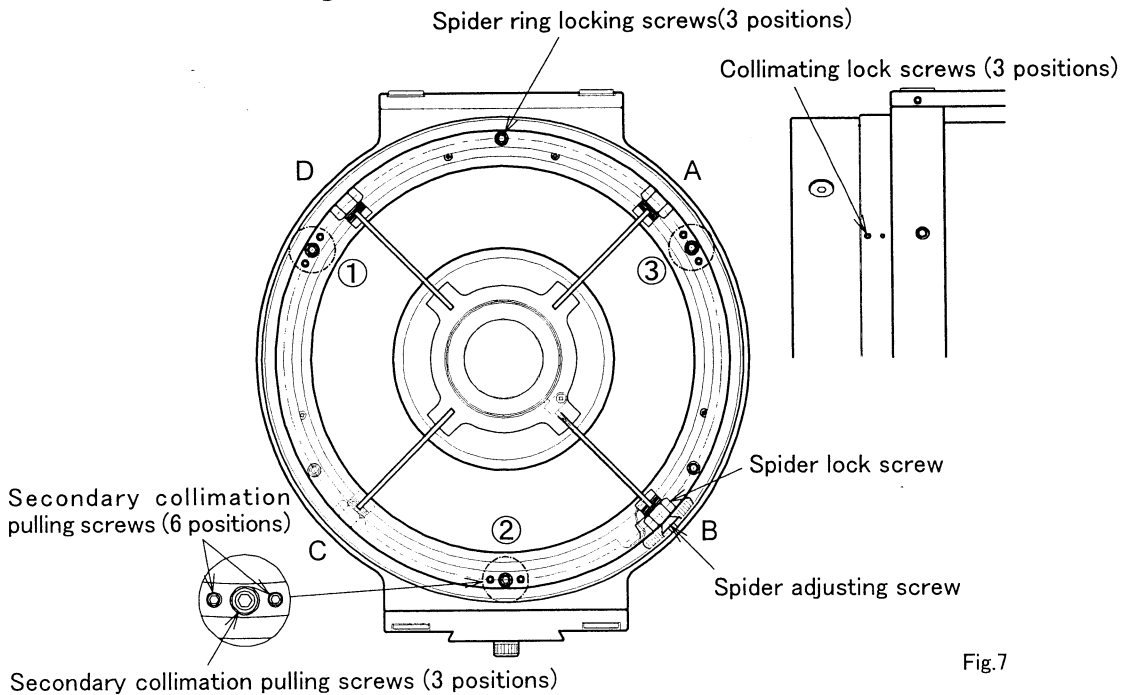
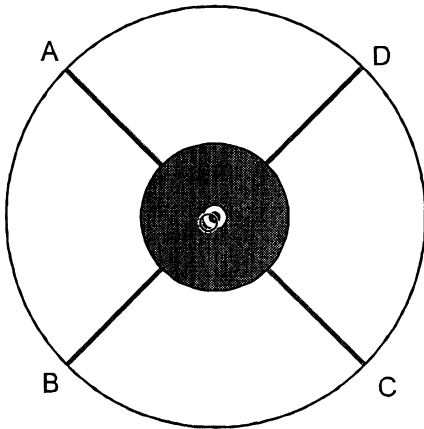

Fig.7
Fig.8
4.Loosen, with the 2mm Allen wrench provided, the collimating lock screws located at 3 places on the side of the top ring. Loosen 3 spider lock screws (M5 with hexagonal hole) located on the opposite side of the collimation lock screws, until it will not be tighten when collimation is performed. Refer to the fig.7.
5. Check the movement of the secondary mark. The Fig. 8 shows what is seen when looking into the collimating scope and the Fig. 7 shows what is seen from the top of the tube. In the Fig. 8, the secondary mark is seen shifted toward the B wing of the spider. Adjusting the shifting in the Fig. 8 is as follows.
6. Adjusting screws for the secondary optical system: The pulling screws with hexagon hole provided at the center and the pushing screws positioned on both side of the pulling screws. Refer to the Fig. 7.